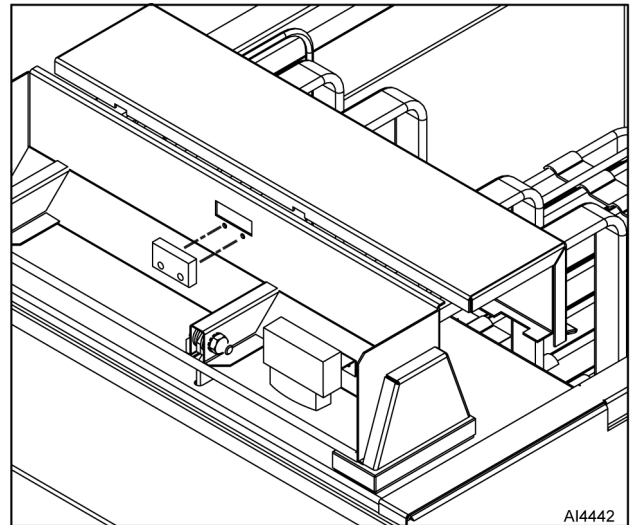

Fig. 21
3. Remove tilt switch (Fig. 21) from element head assembly.